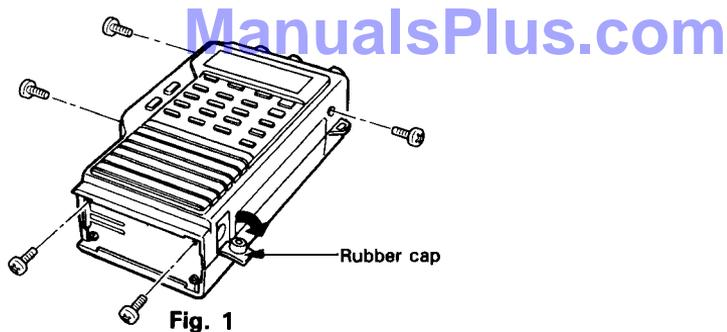

Fig. 1
2. Remove the Battery Pack and remove the two phillips head screws from the terminal plate of the transceiver (Fig. 1).
4. Remove the rubber cap from the DC IN terminal on the side of the transceiver (Fig. 1).